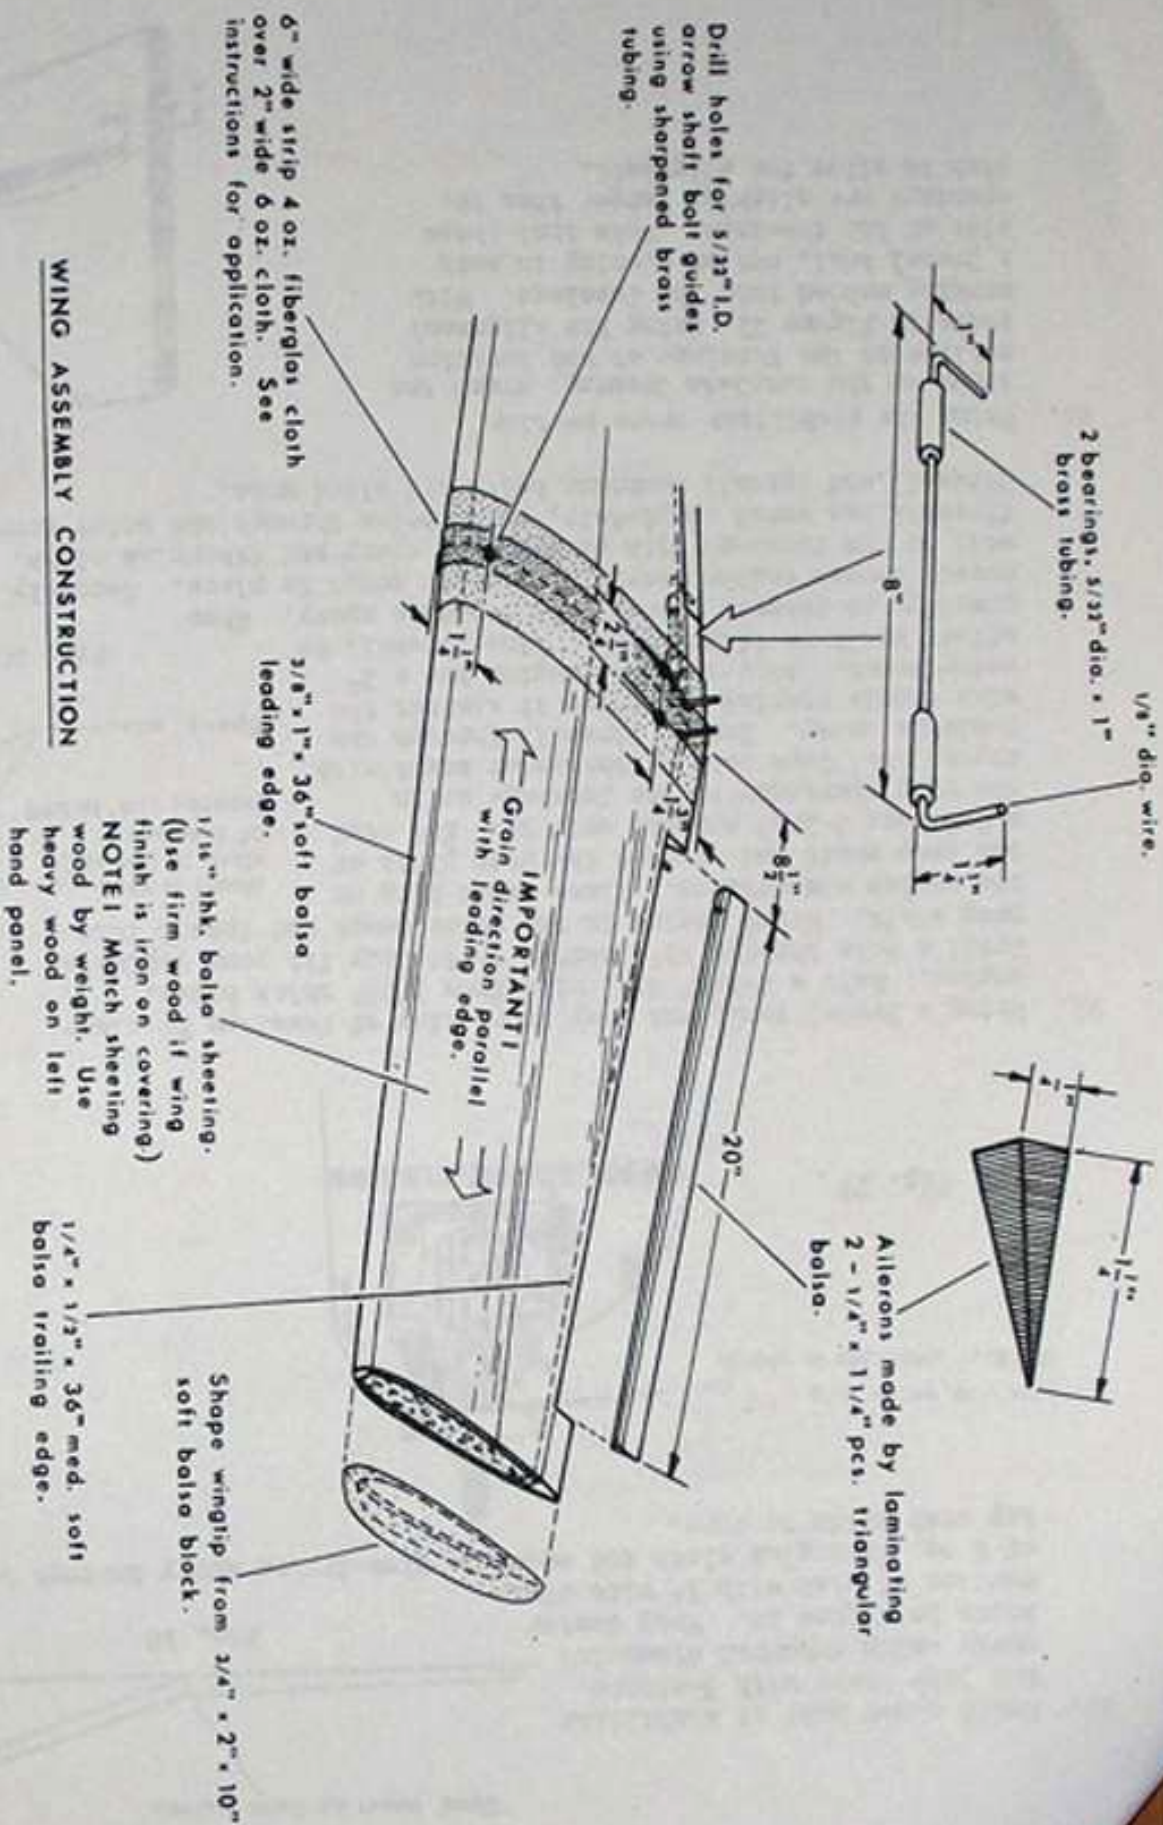

Figure 17
6. Lay the wing core in the foam saddle back onto the work surface. Glue sufficient pieces of $1/16"$ thick balsa with Hot Stuff to cover the wing. Use firm wood if the wing finish is to be an iron-on covering. Be sure and match sheeting wood by weight. Use the heavy wood on the left wing panel. Rough cut the sheeting to the outline of the wing. Coat one surface of the core and one surface of the wing sheeting with contact cement. Allow it to dry thoroughly before proceeding further. Note in figure 17 that the grain direction of the wing sheeting is important.
14. Refer to wing assembly construction drawing (figure 17) and install aileron actuating assemblies. Fabricate ailerons from two $1/4"$ x $1-1/4"$ x $20"$ triangular balsa laminated together. Refer to dimensions given in figure 17 and mark where aileron joins the wing. Cut slots for aileron hinges exactly on centerline of trailing edge. Cut matching slots in ailerons and trial fit, but DO NOT glue in place.